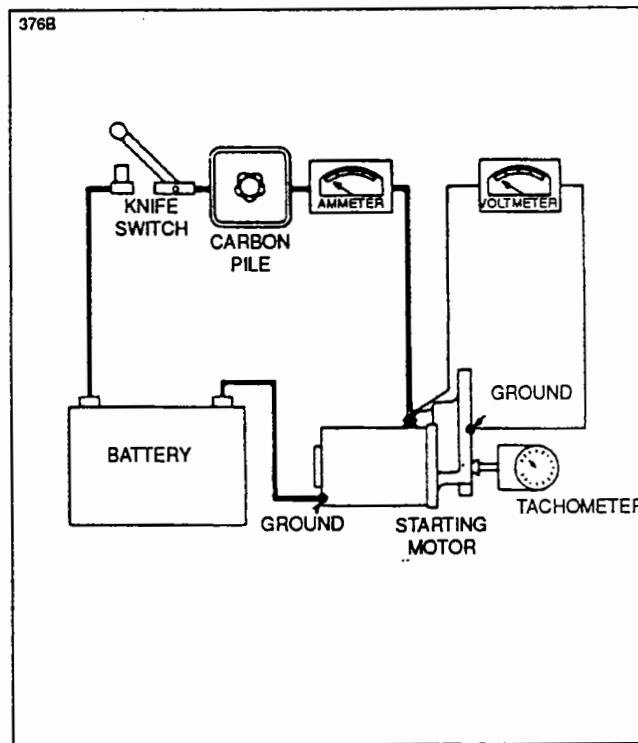

Figure 80-5. No Load Test Hookup
1. After the starting motor is reassembled, it should be tested to see that no load current at a certain voltage is within specification as given in Chart 8002. To make this test, connect as shown in Figure 80-5. If current is too high, check the bearing alignment and end play to make sure there is no binding or interference. Two or three sharp raps on the frame with a rawhide hammer will often help to align the bearings and free the armature.